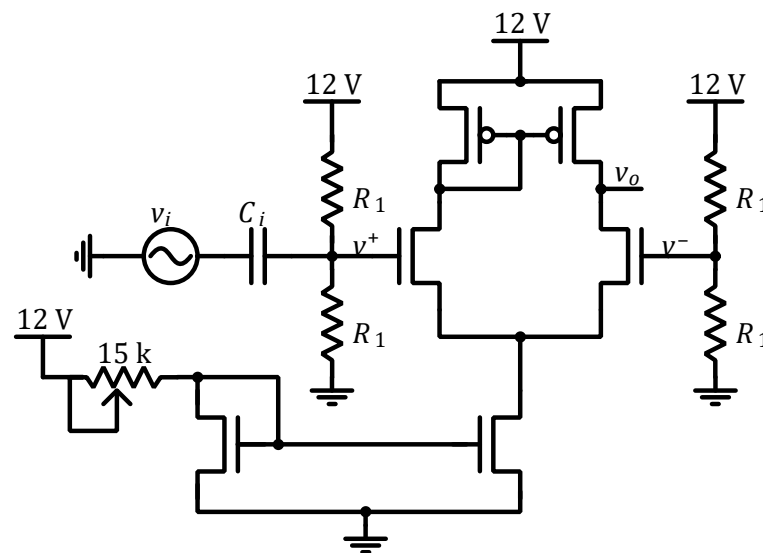

Figure 2: CMOS differential amplifier.
1. Connect the circuit of a CMOS differential amplifier as Figure 2 on a breadboard using CD4007 IC for the MOSFETS. Use the current mirror set to provide 1 mA as in the previous sub-experiment.